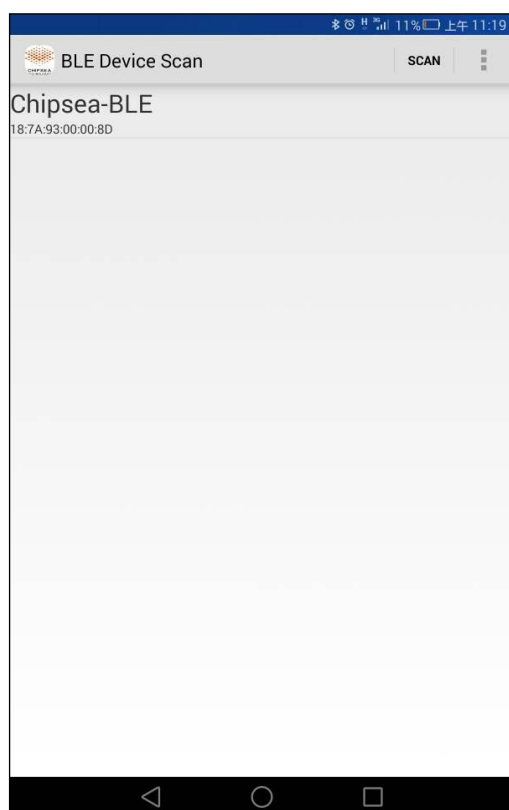
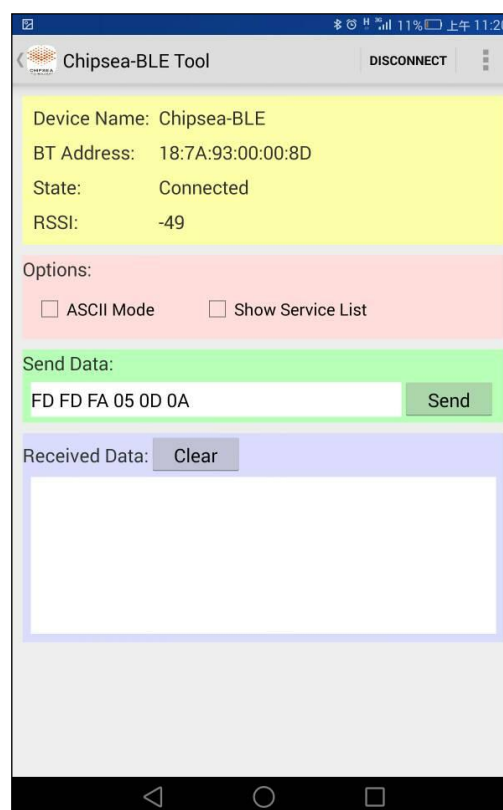

figure3.1.1
figure3.1.2
- (1) The Bluetooth module is connected to the 3.3V power supply via the 3.3V pin and the GND pin.
- (2) TX and RX pins are connected to a computer via a MAX232 Level conversion.
- (3) Open the phone APP, click on the search button in right corner , you can search the Chipsea-BLE Bluetooth module, as shown in Figure 3.1.1. Click Chipsea-BLE, enter the connection interface, as shown in Figure 3.1.2.